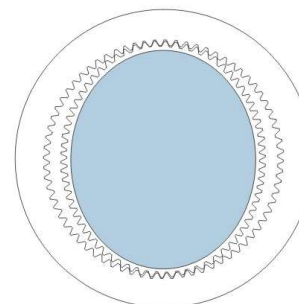

Figure 1
3. Please make sure the engagement between flex-spline and circular-spline is 180 degree symmetry (Figure 1) after the installation of cam. If not (Figure 2), it will trigger vibration and damage.